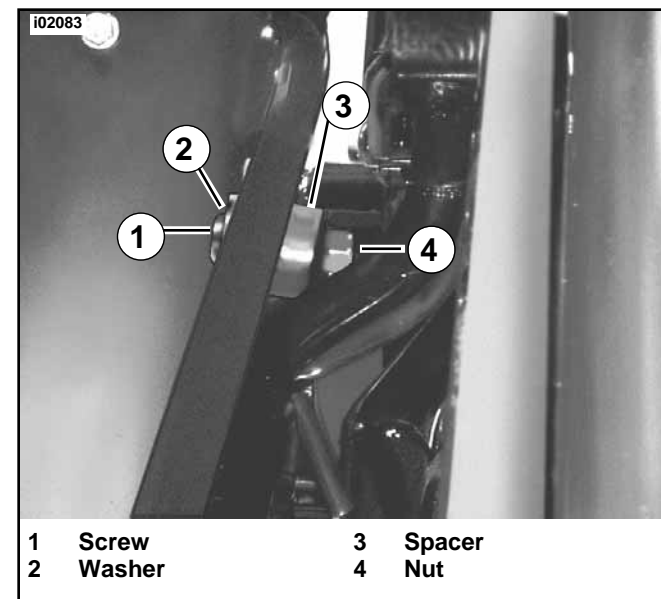

Figure 17. Secure Saddlebag to Support
36. See Figure 17. Install screw (Part No. 4214) and washer (Part No. 6213) from inside saddlebag, through spacer, then install nut (Part No. 7735). Finger tighten.